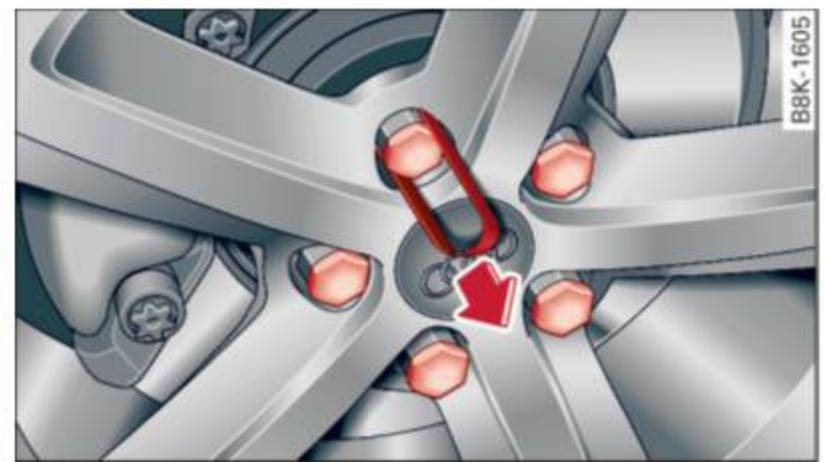

Fig. 203 Changing a wheel: removing the wheel bolt caps
- ▶ Pull on the **plastic clip** to remove the cap ⇒ fig. 203.